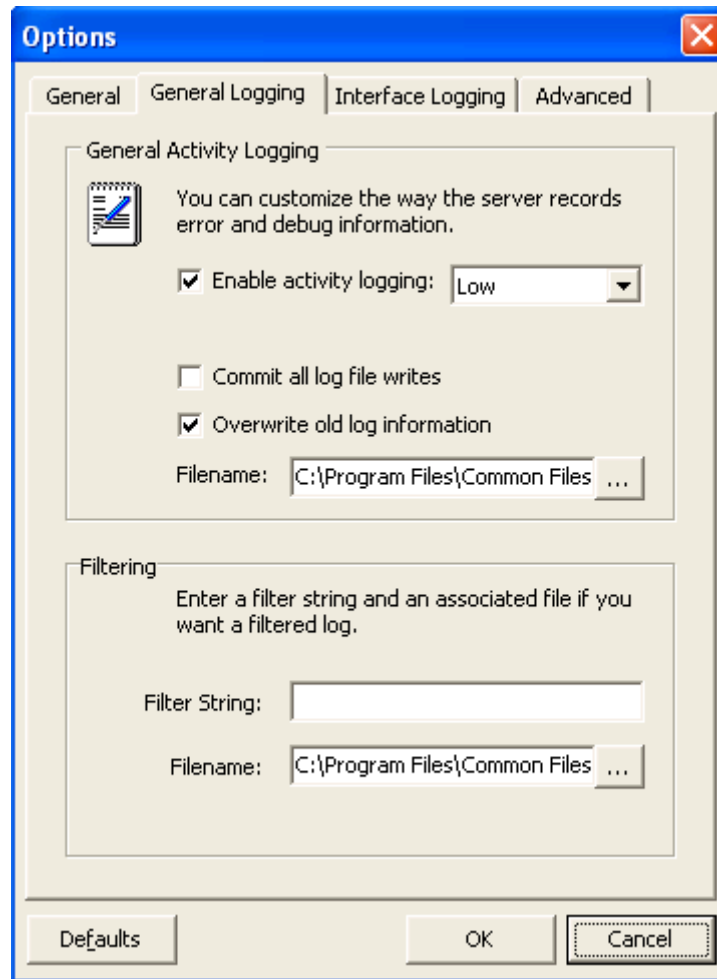

Figure 13 - General Logging Options Tab
3. From the **Options** window, select the **General Logging** tab (Figure 13).